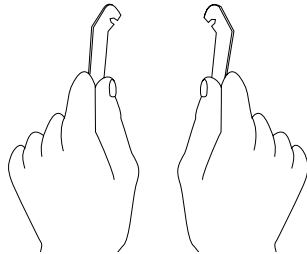

Figure 2-15 Orientation of the Wrenches
- Grasp the wrenches as shown in Figure 2-15. The orientation of the wrenches is important.